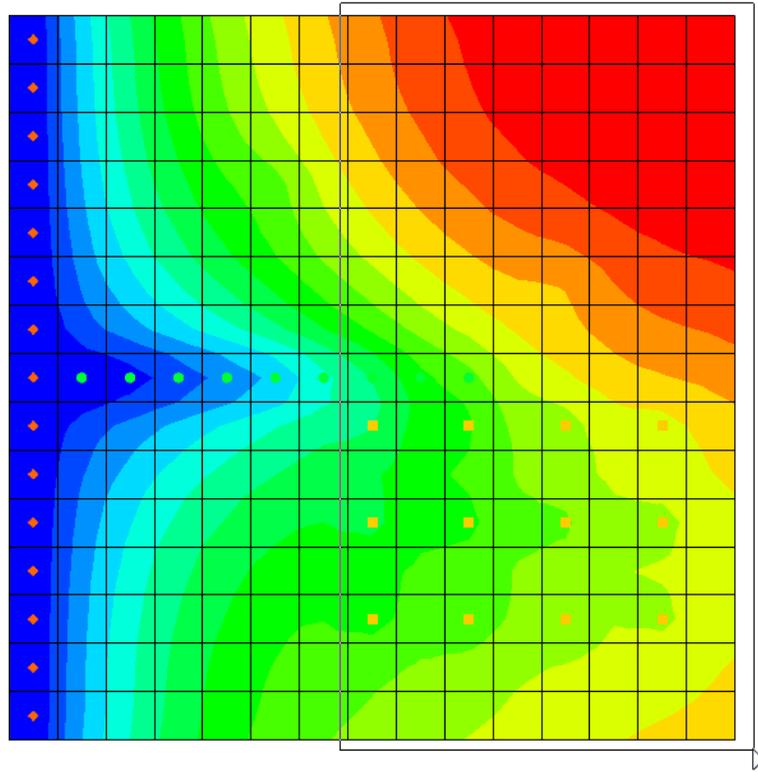

Figure 9 Dragging a box around the rightmost eight columns
3. Using the **Select Cells**  tool, select the rightmost eight columns (see Figure 9).